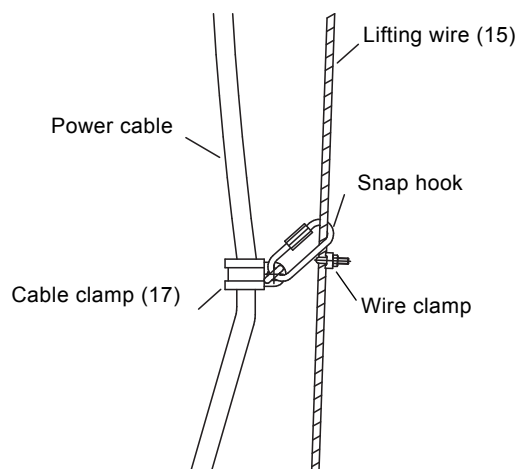

Fig. 22 Attaching the cable to the wire
18. Fix the power cable to the lifting wire by means of a cable clamp approx. 2.6 ft (0.8 m) above the flowmaker. This will prevent the cable from falling down and becoming entangled in the propeller during operation. Connect the cable clamp to the lifting wire above the wire clamp by means of a snap hook. See fig. 22. Attach the power cable to the lifting wire by means of cable clamps placed at 3.3 ft (1 m) intervals.
23. Remove the lifting wire from the winch and fit it to the wire clamp (20) on the top fixation bracket.
24. Use the lifting wire as a relief for the power cable. For this reason, always tighten the lifting wire. See fig. 22.